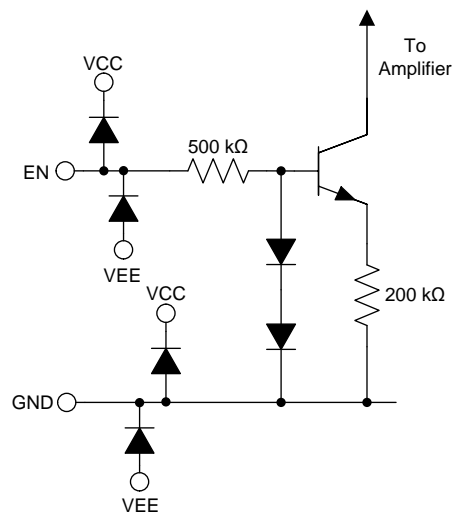

Figure 43. Enable Pin Simplified Internal Schematic
The enable pin (EN) of the OPA1622 is used to toggle the amplifier enabled and disabled states. The logic levels defining these two states are: $V_{EN} \leq 0.78 \text{ V}$ (shutdown mode), and $V_{EN} \geq 0.82 \text{ V}$ (enabled). These threshold levels are referenced to the device ground pin. The enable pin can be driven by a GPIO pin from the system controller, discrete logic gates, or can be connected directly to the V+ supply. Do not leave the enable pin floating because the amplifier is prevented from being enabled. Likewise, do not place GPIO pins used to control the enable pin in a high-impedance state because this placement also prevents the amplifier from being enabled. A small current flows into the enable pin when a voltage is applied. Using the simplified internal schematic shown in Figure 43, use Equation 4 to estimate the enable pin current:
As illustrated in Figure 43, the enable pin is protected by diodes to the amplifier power supplies. Do not connect the enable pin to voltages outside the limits defined in the Specifications section.
The inclusion of a ground pin in the OPA1622 architecture allows the internal enable circuitry to be referenced to the system ground, eliminating the need for level shifting circuitry in many applications. The internal amplifier compensation capacitors are also referenced to this pin, greatly increasing the ac PSRR. For highest performance, connect the ground pin to a low-impedance reference point with minimal noise present. As shown in Figure 43, the ground pin is protected by ESD diodes to the amplifier power supplies. Do not connect the ground pin to voltages outside the limits defined in the Specifications section.